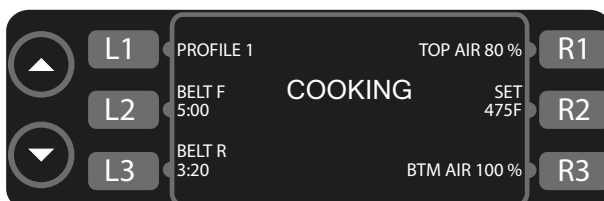
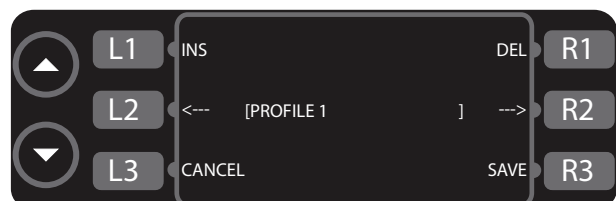

Figure 14: Cooking Screen
Figure 15: Name Change Screen
When the rigid option is enabled for a given setting, the soft key adjacent to that setting (Figure 14) is disabled and no menu editing is allowed.
- From the cooking screen (Figure 14), press L1 to access the name change screen (Figure 15).
1. From Figure 14, press the soft key adjacent to the conveyor belt you wish to adjust (press L2 for the front belt [Belt F] or L3 for the rear belt [Belt R]).
1. Press R2 (Figure 14, page 13) to access the temperature controls.
1. Press R1 (Figure 14, page 13) to access the top air controls, or R3 to access the bottom air controls.